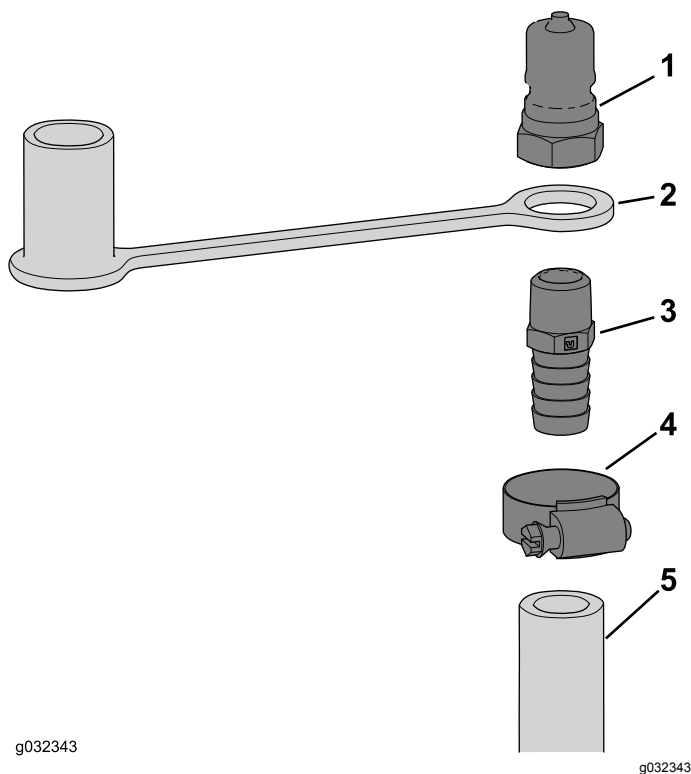

Figure 8
2. Slide the dust plug over the threaded end of the straight fitting (Figure 8).
3. Thread the straight fitting (3/8 NPT x 0.625 barb) to the male coupler (Figure 8).